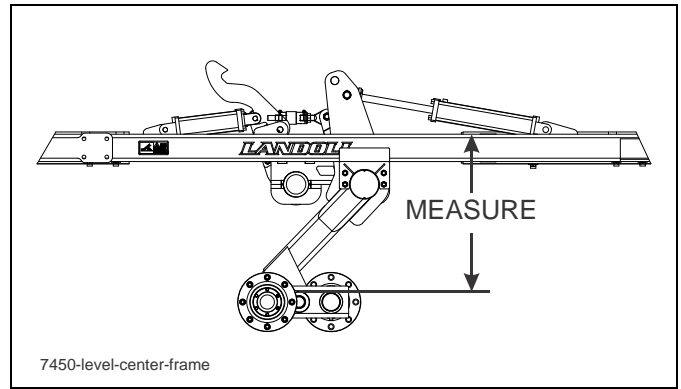

Figure 4-10: Leveling Center Frame from Side to Side
- d. On the center frame, measure the distance from the welded tube in the walking beam to the top side of the frame (See Figure 4-10.)